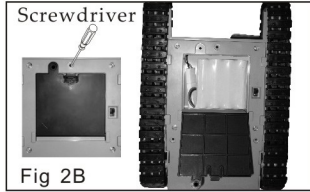

Fig 2B
2. Open the cover under the truck by screwdriver, inserts 1pc of 4. 8V AA rechargeable battery as the correct polarity, and then screw the cover. (Fig 2B)